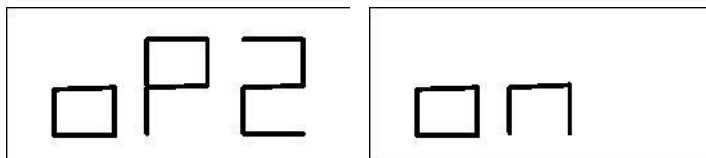

Fig. F7.1 Enabling the memory of operator 2. The memory of operator 1 is stored.
1. When the machine is free, press [F+P6] to select operator 2. The LED located next to the button lights on to indicate that operator 2 is enabled. The message shown in figure F7.1 will be displayed for one second.